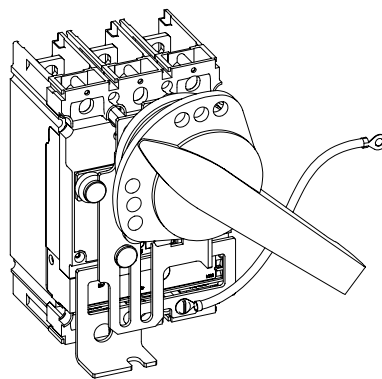

Figure 1a. FENRM2 (Shallow Door Mount)
These instructions describe the installation procedure for the Rotary Handle THCH45 operator accessory on **Record Plus™** circuit breakers, as shown in Figures 1a & 1b.
- FENRM2 provides the necessary parts for direct mounting of the handle on the breaker mechanism through the enclosure door, with a box depth of 5 29/32 inches (150.1 mm), as shown in Figure 1a. Maintain the dimension “H” [5 7/64 inches (129.69)] as shown in Figure 9.